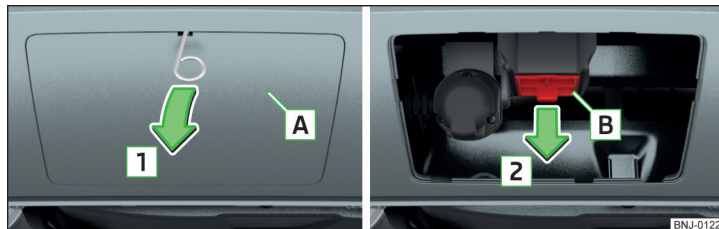

Fig. 246 Removing the cap: on the rear bumper / for the receiving shaft
- Remove the cover cap **A** in the direction of arrow **1** » Fig. 246 using the on-board tool clamp for pulling off the wheel trims.
- Insert the cover **[B]** » Fig. 246 on page 195 in the opposite direction to arrow **[2]**.
- Fix the cap **[A]** » Fig. 246 on page 195 aligning it with “check mark” in the lower bumper area.